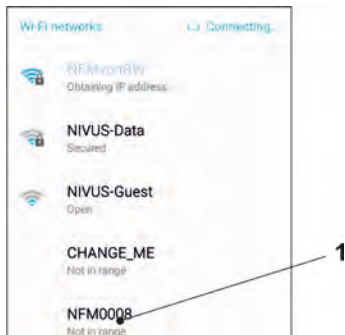

Fig. 31-4 WLAN list
4. From the list of available WLANs select the NFM (Fig. 31-4 no. 1) with the according SSID (default state = serial number).